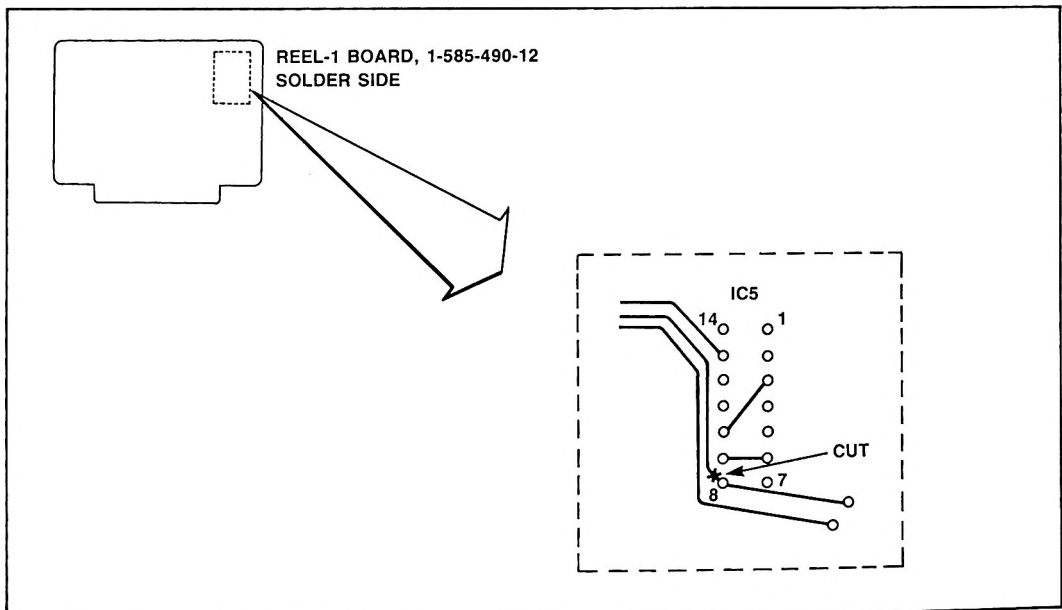

Figure 3
3. On solder side, cut trace at IC5-8. Cut should be made as close to pin 8 as possible. (See Figure 3.)